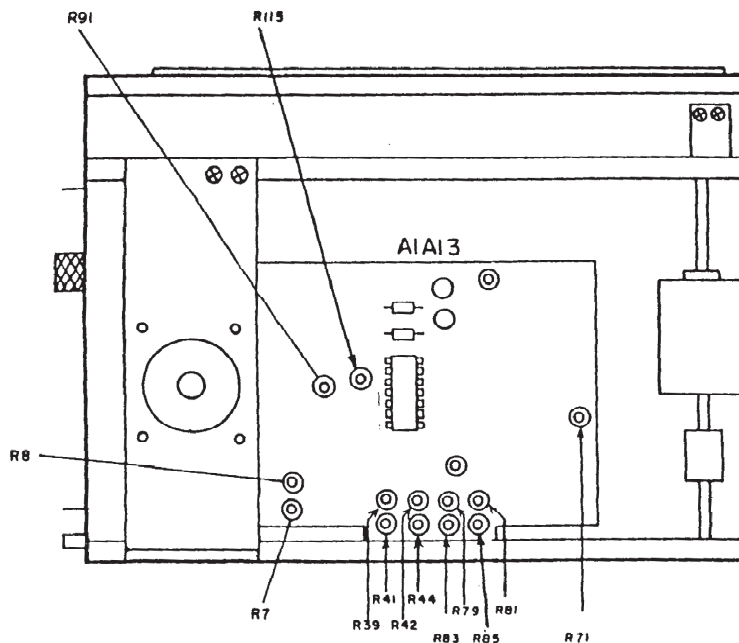

Figure 5. Test Instrument - Right View.
- (1) Adjust A1A13R44 (fig. 5) for an oscilloscope indication of -10 kHz.
- (2) Adjust A1A13R39 (fig. 5) until **FREQ ERROR** meter indicates 10 kHz.
- (3) Adjust A1A13R44 (fig. 5) for best in-tolerance condition while repeating **a** (1) through (7) above.
- (4) Adjust A1A13R41 (fig. 5) until **FREQ ERROR** meter indicates 4 kHz.
- (5) Adjust A1A13R42 (fig. 5) until **FREQ ERROR** meter indicates 1 kHz.
- (6) Adjust signal generator amplitude for -107 dBm.
- (7) Set **RCVR WIDE-MID-NARROW** switch to **WIDE**.
- (8) Adjust A1A13R7 (fig. 5) until **INPUT LEVEL** lamp (front panel) just illuminates.
- (9) Set **RCVR WIDE-MID-NARROW** switch to **NARROW**. Adjust A1A13R8 (fig. 5) until **INPUT LEVEL** lamp just illuminates.
- (10) Set **DEV-PWR** switch to **SIG**. Adjust signal generator amplitude to -25 dBm. Adjust A1A13R91 (fig. 5) until **DEVIATION/WATTS** meter indicates FS.
- (11) Repeat (6) through (10) above as necessary.
- (1) Adjust A1A13R71 (fig. 5) until **DEVIATION (kHz)** meter indicates zero.
- (2) Set **GEN-RCVR** switch to **GEN** and adjust A1A13R81 (fig. 5) until **DEVIATION (kHz)** meter indicates zero. Set **RCVR-GEN** switch to **RCVR**.
- (3) Repeat (1) and (2) above as necessary.
- (4) Adjust **VAR** control until measuring receiver indicates **2 kHz**. Adjust A1A13R85 (fig. 5) until **DEVIATION (kHz)** meter indicates **2 kHz**.
- (5) Adjust **VAR** control until measuring receiver indicates 6 kHz. Adjust A1A13R83 (fig. 5) until **DEVIATION (kHz)** meter indicates **6 kHz**.
(6) Adjust **VAR** control until measuring receiver indicates 20 kHz. Adjust A1A13R79 (fig. 5) until **DEVIATION (kHz)** meter indicates **20 kHz**.